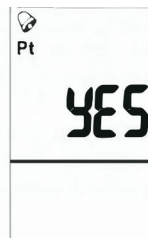

Fig. 16
Press to enter. Press or to enable (YES) or disable (NO) the alarm function. (Fig.16). Then, press or to adjust the alarm threshold value you need. The adjustable scale is 1 degree. Press to save.